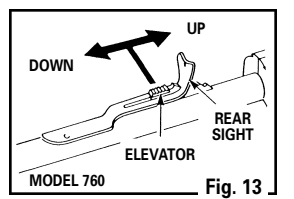

Fig. 13
- Model 760:** The rear sight may be adjusted to shoot higher or lower (elevation). Move the rear sight elevator back to make the BB or pellet hit higher on the target. Move the rear sight elevator forward to make the BB or pellet hit lower on the target. When moving the elevator, slightly lift the rear sight and reset it on the desired notch in the elevator (Fig. 13).